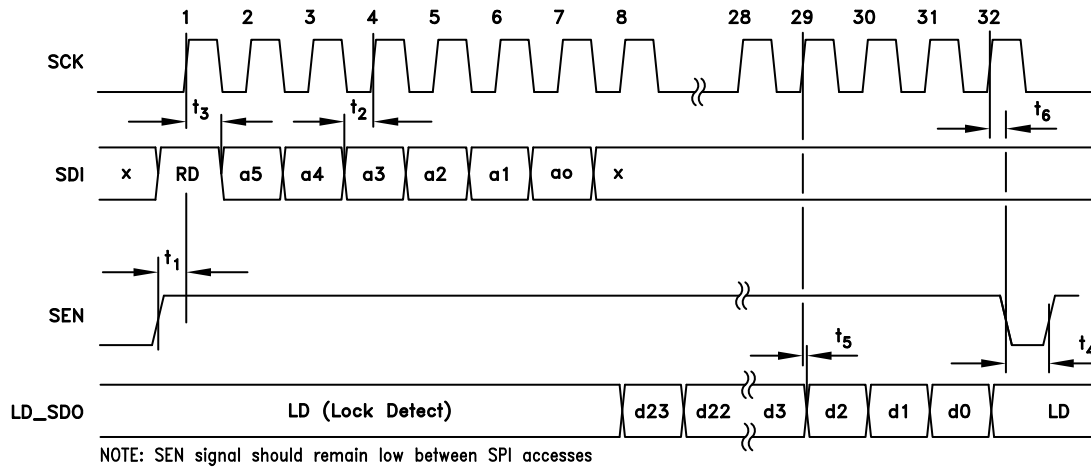

Figure 46. HMC Mode - Serial Port Timing Diagram - READ
The HMC Mode protocol, shown in figures Figure 45 and Figure 46, is designed for a 4 wire interface with a fixed protocol featuring
A typical HMC Mode READ cycle is shown in Figure 46.
- The Master (host) asserts both SEN (Serial Port Enable) and SDI to indicate a READ cycle, followed by a rising edge SCLK. Note: The Lock Detect (LD) function is usually multiplexed onto the LD_SDO pin. It is suggested that LD only be considered valid when SEN is low. In fact LD will not toggle until the first active data bit toggles on LD_SDO, and will be restored immediately after the trailing edge of the LSB of serial data out as shown in Figure 46.
- The slave (HMC833LP6GE) reads SDI on the 1st rising edge of SCLK after SEN. SDI high initiates the READ cycle (RD)